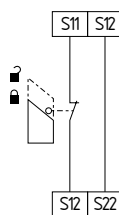

Fig. 7
**Single-channel guard door monitoring circuit with interlocking devices to EN 1088 (Fig. 7)**